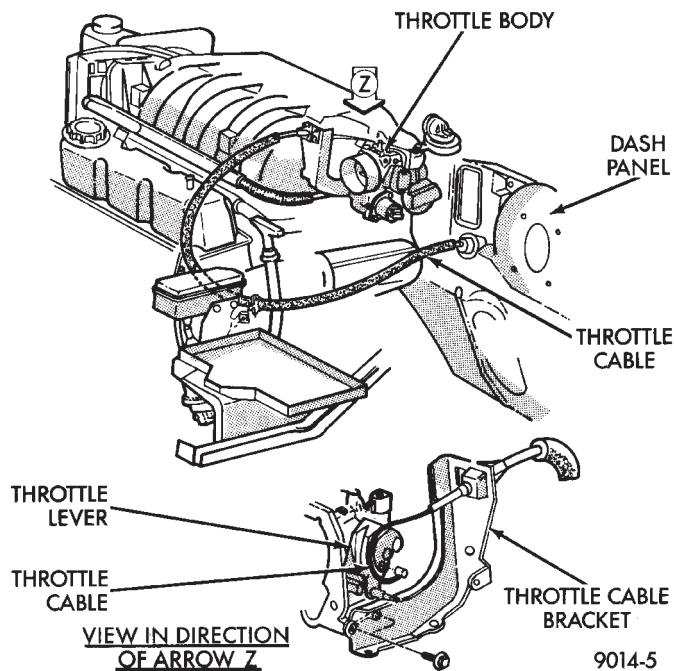

Fig. 6 Throttle Cable Attachment
- (4) Remove throttle cable (Fig. 6). Remove wiring harness from throttle cable bracket and intake manifold water tube.